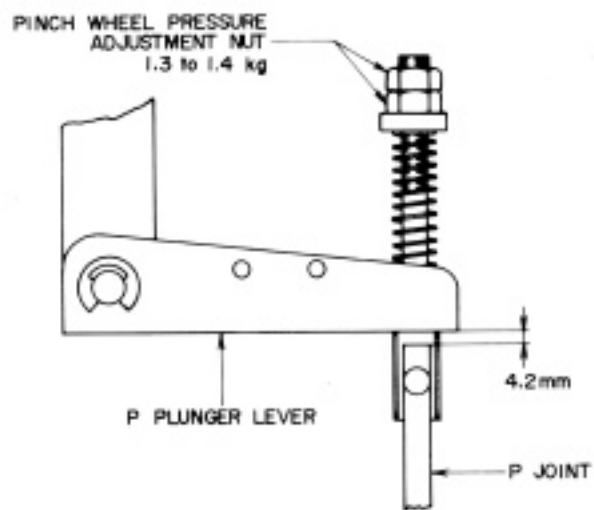

Fig. 2
- 2) Insert a 4.2 mm gauge (a U type washer etc.) between the P Plunger Lever and P Joint (Refer to Fig. 2).
3. PINCH WHEEL PRESSURE ADJUSTMENT (Refer to Fig. 2)